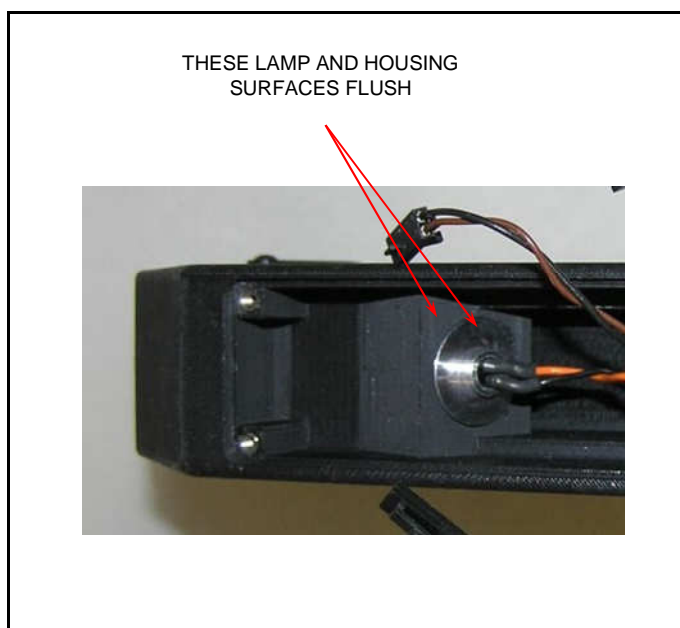

Figure 23 Lamp Replacement
7. Lower the lamp housing until the lamp housing and housing surfaces identified in Figure 23 line up flush. Use the .05" hex wrench to tighten the lamp setscrew. **Warning: inserting the lamp assembly too far into the cylindrical cavity will increase the light/heat energy that the sample is exposed to, which may rapidly degrade some samples (especially vegetation) during scanning. Furthermore the spectral data may show some anomalies.**